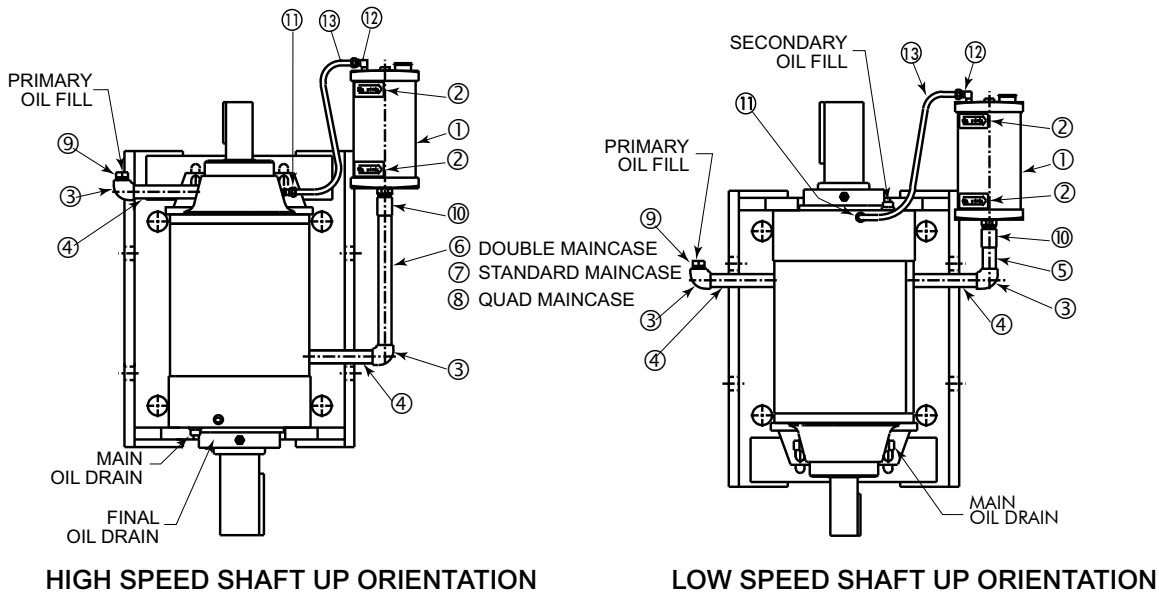
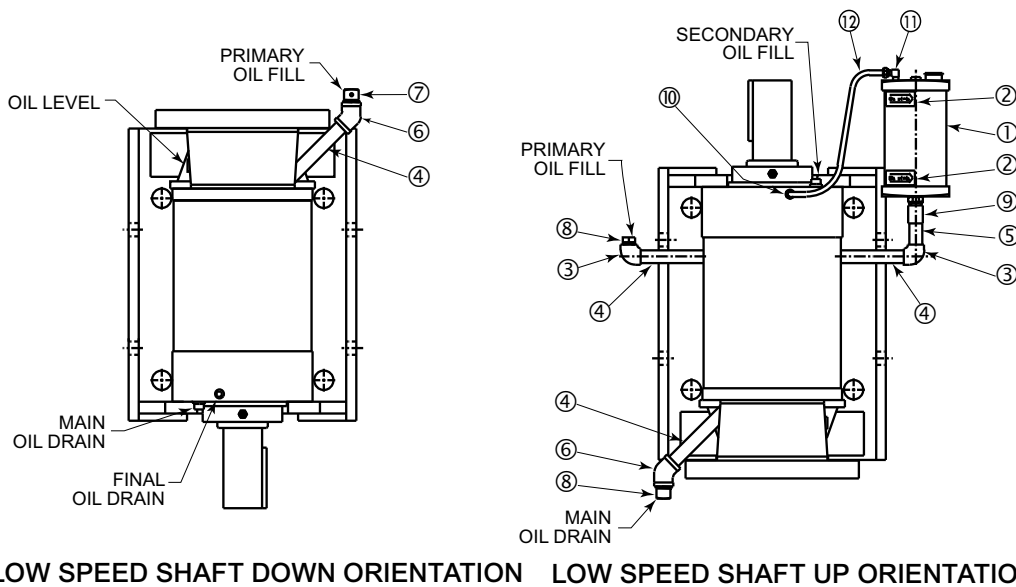

Figure 7.1a Vertical Service Shaft Orientations (Standard Reducers)
Figure 7.2a Vertical Service Shaft Orientations (Standard Reducers)
Assemble components as shown in **Figure 7.1a & Table 15**, and **Figure 7.2a & Table 16**. It is difficult to determine all potential field installation interference points. If necessary please substitute different pipe fittings as required. In doing so, it is important that the bottom of the reservoir is at or above the uppermost bearing. Holes have been drilled by the factory to facilitate both right hand or left hand oil reservoir mounting. Apply pipe sealant to all threaded connections during assembly.
1. Begin by filling the reducer thru the primary oil fill in the maincase until full. Reference **Figure 7.1a**.
1. Begin by draining oil from main oil drain in maincase. Reference **Figure 7.1a**.